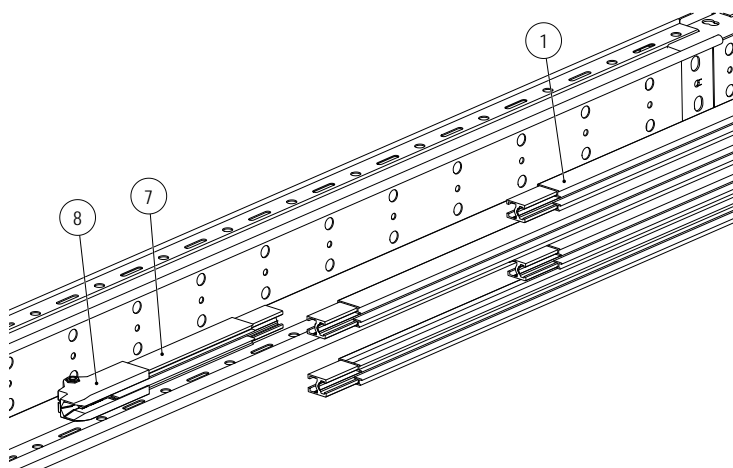
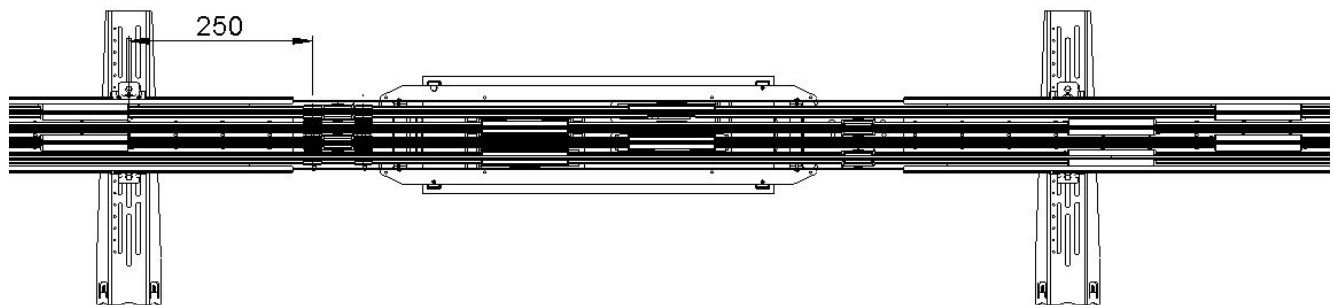
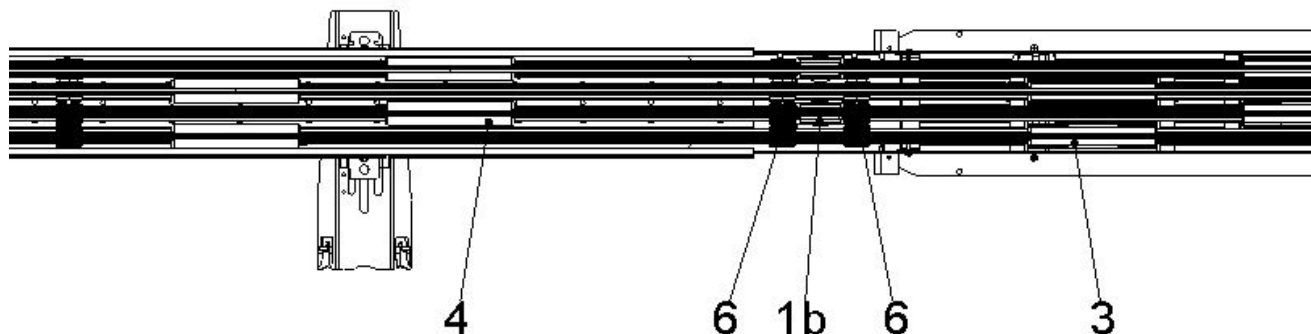

Fig. 34: Install short pieces (7) on conductor rail pieces
Fig. 42: Distance between connector and hanger clamp
Fig. 44: System overview on track
This means that the short pieces (250 mm) (7) must be connected to the conductor rails (1) before installation in the terminal box (see Fig. 34).
7. Connect the conductor rails on the track to the end of the system (see BAL0812-0001). Note that the distance between the hanger clamps and the connectors must be at least 250 mm (see Fig. 42 to Fig. 44). If the conductor rail with the line feed and the anchor point is the last conductor rail of the system, the short pieces (7) and end caps (8) must be installed beforehand (see Fig. 34).
9. Install the end caps on the conductor rails at the end of the system (see BAL0812-0001) before hanging the conductor rails. If the conductor rail with the line feed and the anchor point is the last conductor rail of the system, the short pieces (7) and end caps (8) must be installed beforehand (see Fig. 34).